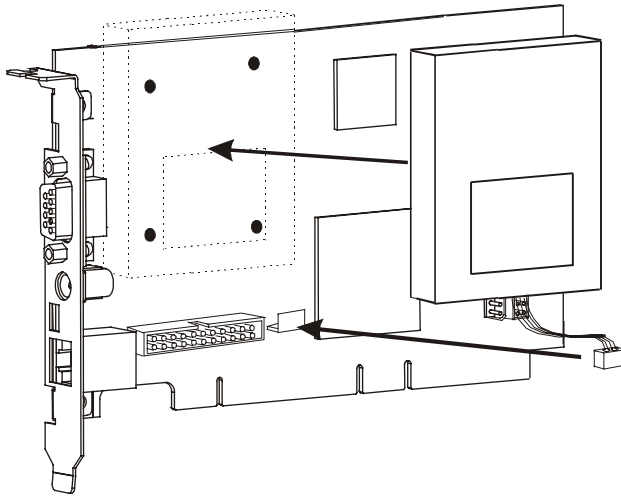

Figure 3-1. Connecting the Battery Pack and Cable
The battery pack must be mounted on the HP TopTools Remote Control card before the card is installed in the server. Note that the battery's sides are slotted so that it can slide onto the printed circuit board as shown in Figure 3-1.
2. With reference to Figure 3-1, attach the battery pack onto the board by inserting the plastic pins on the back of the battery into the holes provided on the board. Be sure the battery cable is situated on the right and can easily reach the battery connector on the card.
3. Plug in the cable leading from the battery pack into the battery connector on the card (refer to Figure 3-1).